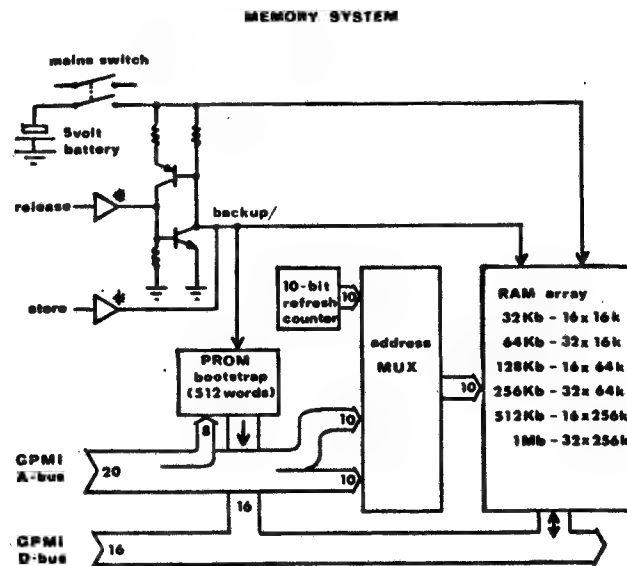

Figure 1-4
- the Memory System (figure 1-4);